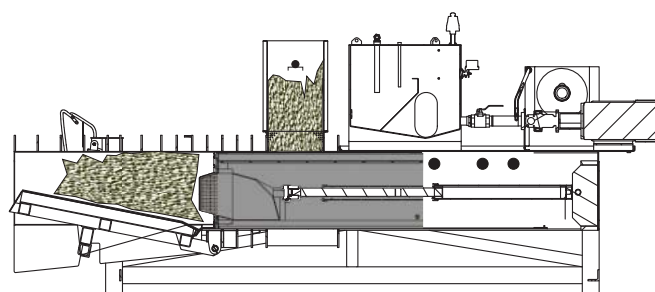

Figure 26. Plunger Extends, Product Falling On Top Of Plunger
6. **PLUNGER STOPS** The plunger stops at full extension (home position), product piling on plunger. PROX 4, PROX 3 and PROX 2 are deactivated (see Figure 26).
5. **PLUNGER STOPS** The plunger stops at full extension (home position), product piling on plunger. **PROX 4**, **PROX 3** and **PROX 2** are deactivated (see Figure 26).